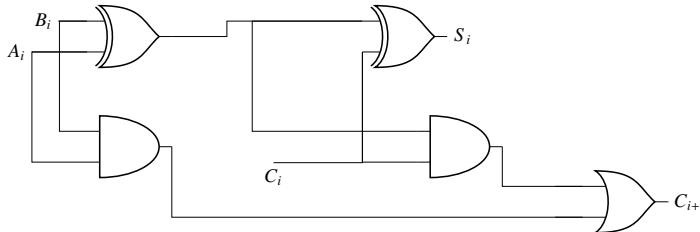

Fig. 3.27: Full Adder
44. Fig. 3.27 shows the i th full-adder block of a binary adder circuit. C_i is the input carry and C_{i+1} is the output carry of the circuit. Assume that each logic gate has a delay of 2 nanosecond, with no additional time delay due to the interconnecting wires. If the inputs A_i, B_i ; are available and stable throughout the carry propagation, the maximum time taken for an input C_i , to produce a steady-state output C_{i+1} is _____ nanosecond. (GATE-IN2019,22)